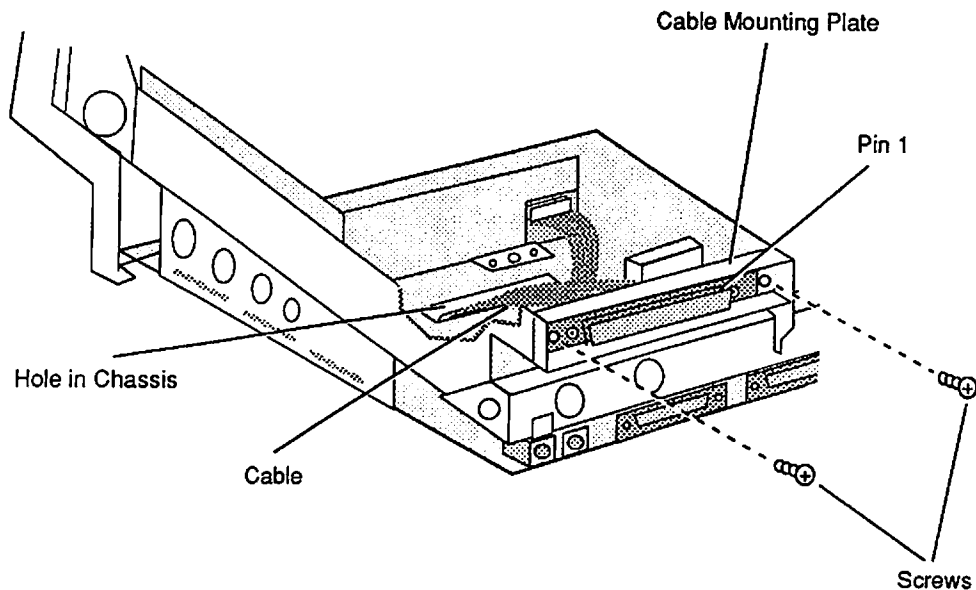

Figure 5-8 Removing the Cable
6. **Figure 5-8.** Stand the Macintosh SE upright so that the back is toward you. Remove the two Phillips screws that secure the cable mounting plate.
7. **Figure 5-8.** Pull the cable through the rectangular hole in the chassis bottom and out of the computer.